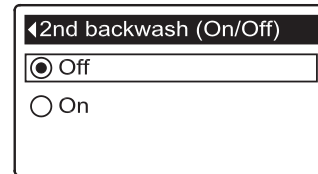

FIG. 69
- 8b. **Second backwash (On/Off):** If the desired option already has a black dot next to it (See Figure 69), go to Step 9. Otherwise, press the DOWN (▼) or UP (▲) buttons to scroll to the other option, then press SELECT (O) to choose it. Setting this feature On adds a second backwash and rinse at the beginning of the recharge cycle. Default is Off. Set this feature On if your water supply contains a lot of sediment or iron.